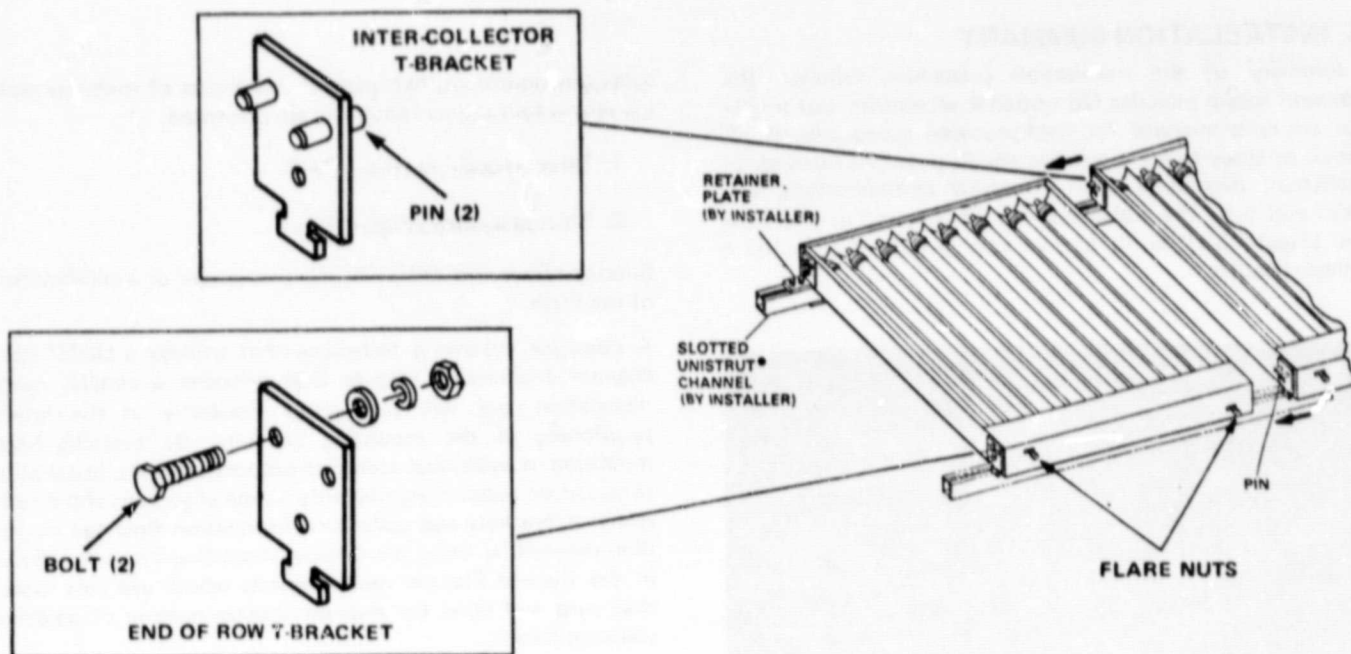
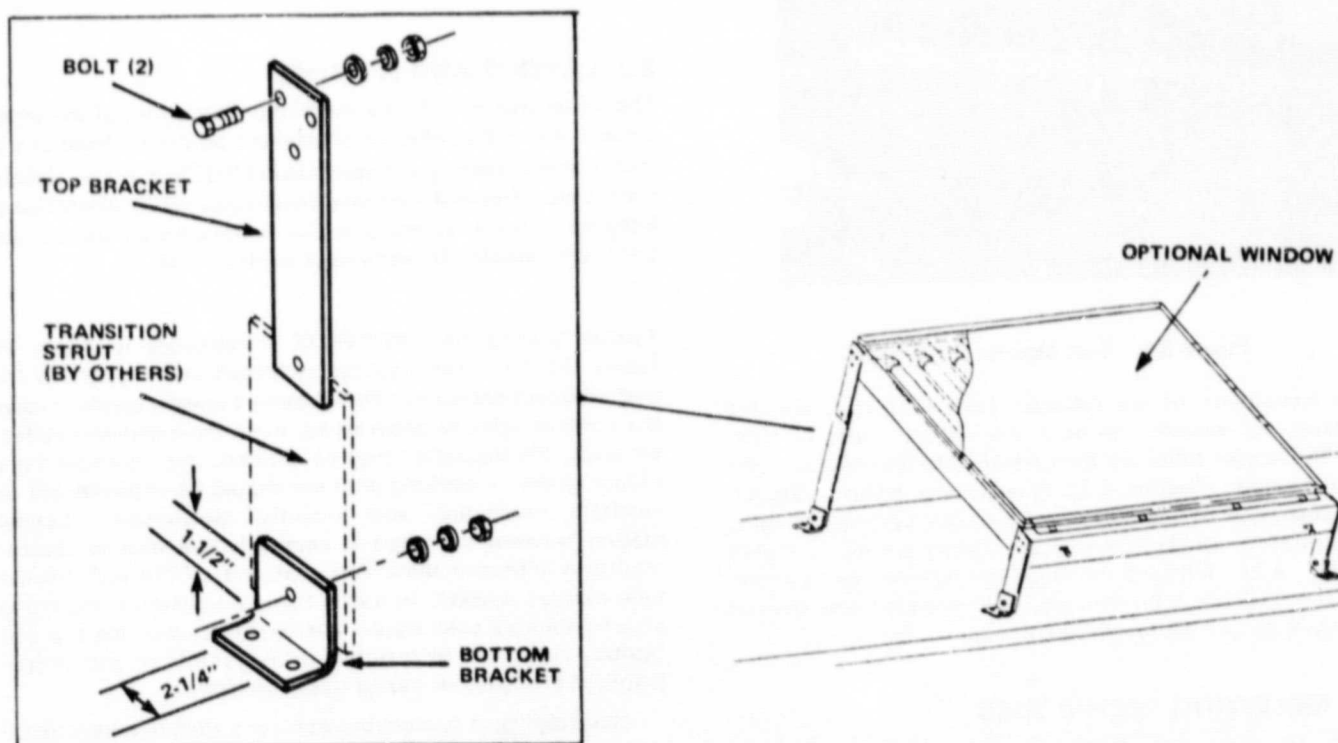
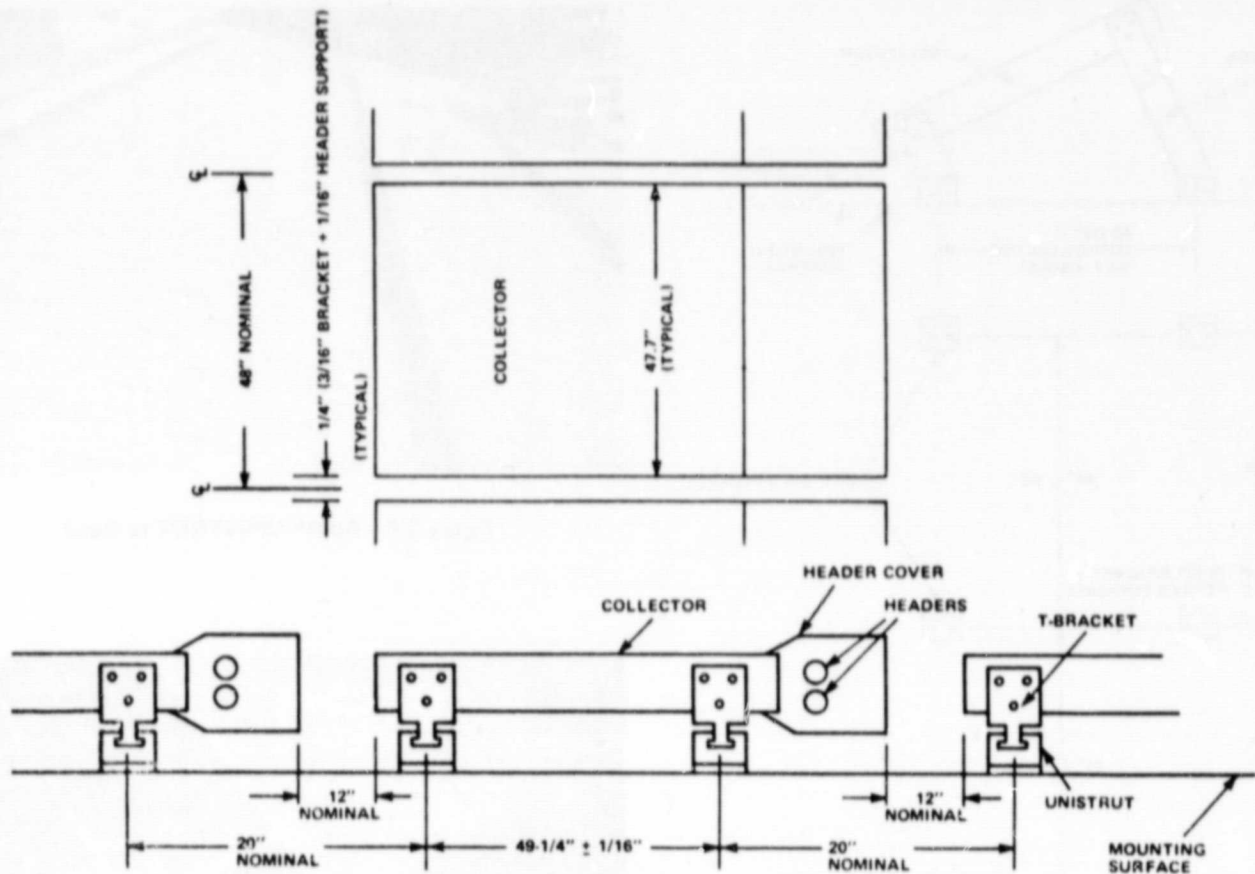
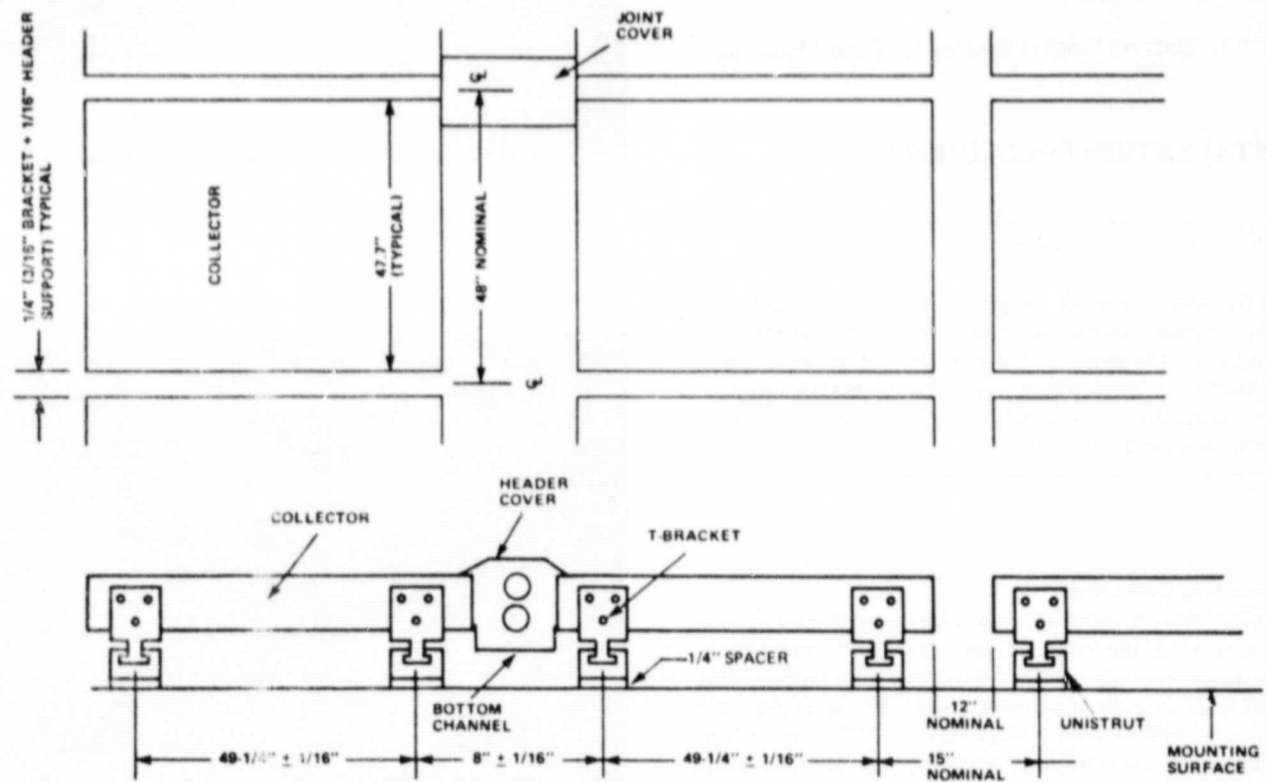

Figure 3-3. Direct Mounting Kits
Figure 3-4. Strut Mounting Kit
Figure 3-5. UNISTRUT Spacing (Single Mounted Collector) For Direct Mounting
Figure 3-6. UNISTRUT Spacing (Dual-Mounted Collector) For Direct Mounting
Mounting Bracket Kits (Figures 3-3, 3-4 and 3-5) for either sloping surface, flat-roof or space frame applications are available. Direct mounting bracket kits (Figure 3-3) include T-brackets which lock the collector to commercially-available UNISTRUT® channels which are attached to the roof or other substructure. "Internal" brackets utilize pins while "external" brackets are bolted. The strut mounting option (Figure 3-4) offers a standard top and bottom bracket design for use with contractor-supplied transition struts. Space frame bracket kits (Figure 3-5) provide a standard L bracket with a 3/8 inch threaded U-clamp for 3" diameter tubes. All three kit options include the required nuts, bolts and washers.
1. Direct mounting (Figure 3-3).
2. Strut mounting (Figure 3-4).
A collector mounting technique that utilizes a UNISTRUT channel attachment (Figure 3-3) provides a simple, quick installation and will also allow flexibility in the lateral positioning of the mounting brackets. By avoiding hard-mounting of individual collector support brackets, installation time can be reduced significantly in the alignment and attachment of brackets and collectors. Installation time can be further reduced by using the internal mounting brackets offered in the General Electric mounting kits which use pins rather than nuts and bolts for slide-on interconnection of adjacent collector panels.
In a strut-mounted installation (Figure 3-4), hard mounting of individual collector support brackets is required to provide rigid support. Strut mounting will be somewhat more time consuming than a direct mounting in terms of both alignment and attachment. Cross-bracing may be required for lateral support.
Typical spacing for UNISTRUT installations is shown in Figure 3-5 for single-mounted collectors and Figure 3-6 for dual-mounted collectors. The distance between adjacent rows is a nominal value to allow access. For a more compact collector array, the separation may be reduced, but provisions for a sliding ladder or working platform should be implemented to facilitate installation and potential maintenance. Lateral spacing between collectors is nominally 1/4 inch to accommodate a 3/16-inch thick T-bracket and a 1/16 inch header tube support bracket. In a dual row configuration, mounting of tube support brackets are alternated between the top and bottom collectors to maintain array symmetry and proper fitting of the collector tubing to the headers.
Install UNISTRUTS with spacing shown in Figure 3-5 or 3-6 and attach to the roof, (Figure 3-8), or substructure. For roof mounting, include 1/4" neoprene-type spacer under the UNISTRUT at each attachment point. For dual mounted collectors, use P5500 series UNISTRUT or P1000 series with 1/4" spacers at the attachment points. Single- and dual-mounted collector installation instructions are described in the following sections. Use the instructions that apply to your configuration.
1. Install all transition struts (Figure 3-4) and top brackets to the bottom brackets.